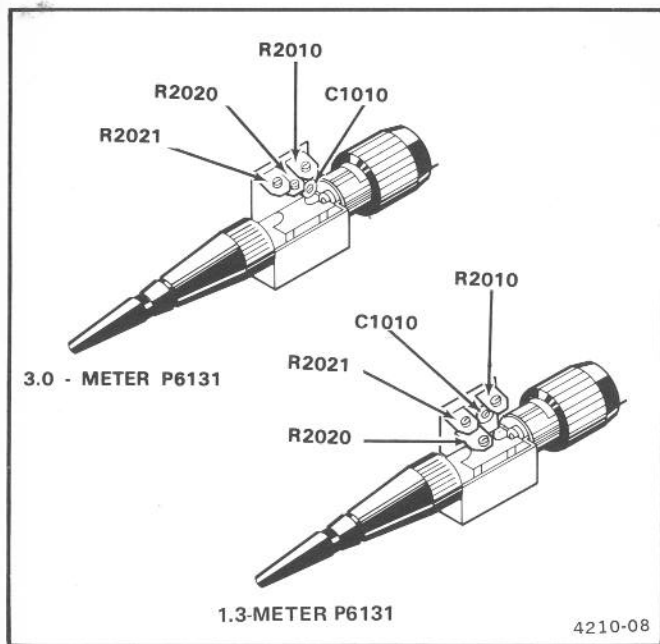
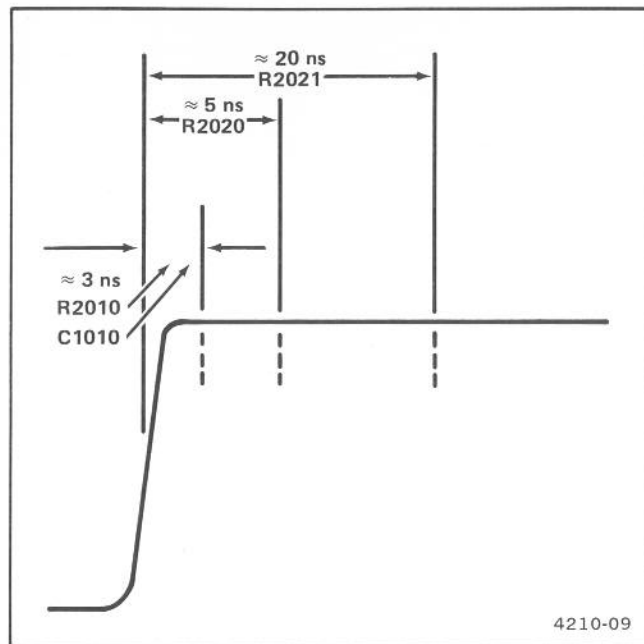

Figure 4-3. High-frequency adjustment locations.
Figure 4-4. High-frequency adjustments, relative to affected areas of the waveform.
k. ADJUST—R2021 for best overall flat response. See Figure 4-3 for the location of all adjustments and refer to Figure 4-4 for identification of the waveform area affected by each adjustment.